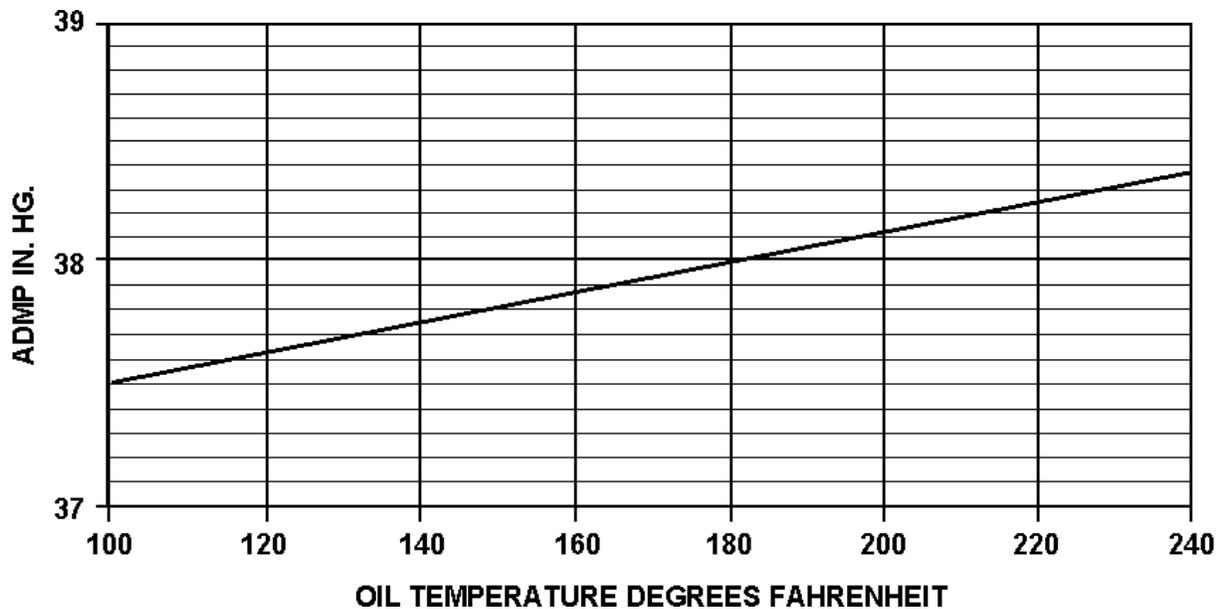

FIGURE 23-5. ADMP VS. OIL TEMPERATURE
- b. Using a handheld digital tachometer, adjust the propeller controls to 2600. With the throttle in the full forward position, set the intake manifold pressure to the value shown in Figure 23-5 (±0.5 In. Hg.) by adjusting the screw on the top of the controller.